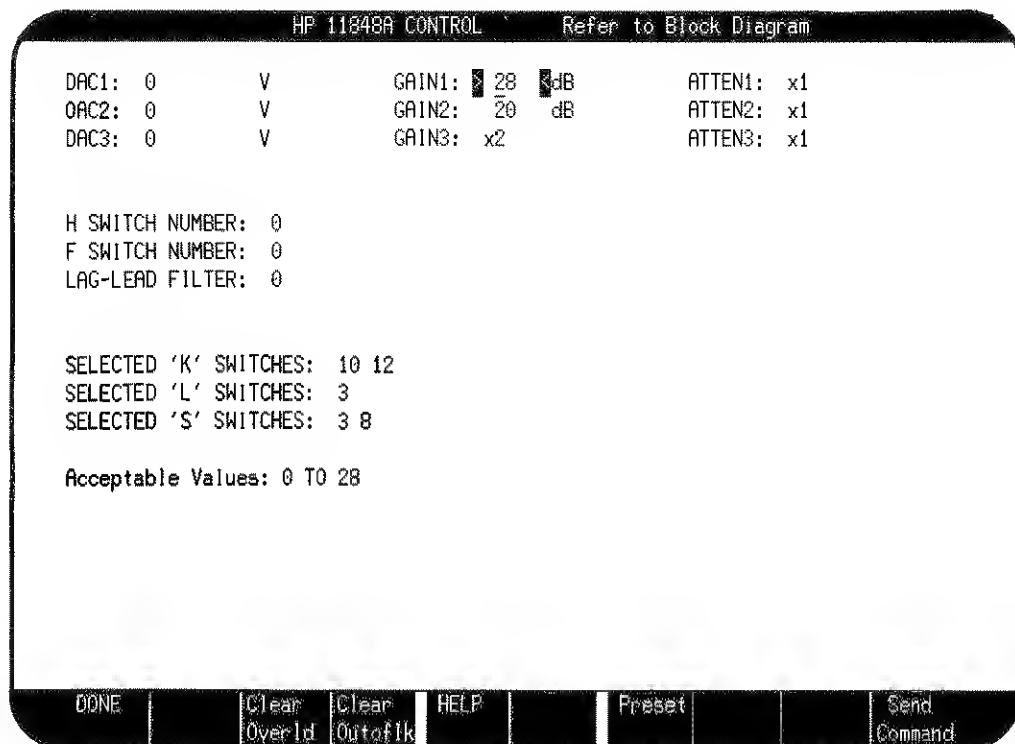

Figure 3-6. HP 11848A Control Display for FM Test
- d. Use the cursor control keys to move the cursor to the "SELECTED 'K' SWITCHES:" line then key in 10 and 12. (Refer to figure 3-6.)
- f. Press the **Send Command** softkey to initiate the commands. The display should appear as in figure 3-6 except for the cursor position, the values following "GAIN1:" and "GAIN2:" (which will be entered later), and the bottom line.
- c. Press the Send Command softkey to initiate the commands. (The display should now appear as in figure 3-6.)